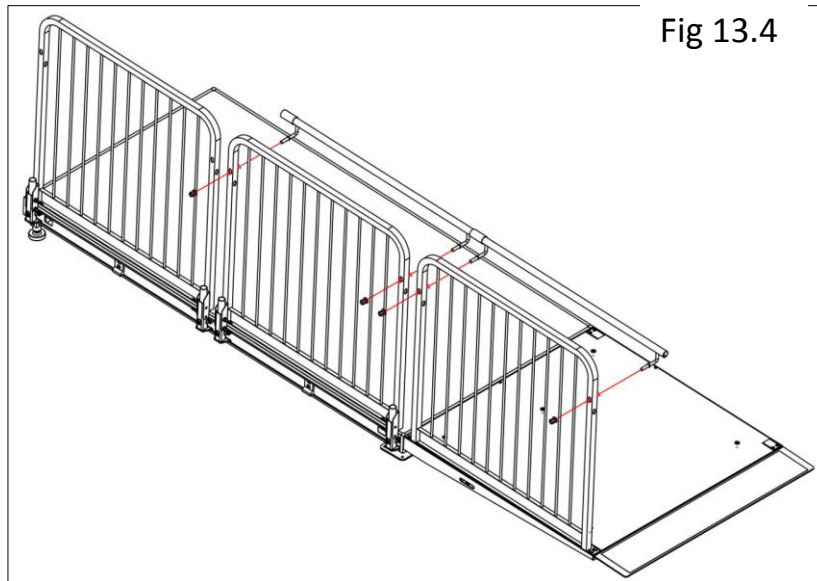

Fig 13.4
- D. Attached the middle handrails to all the guardrails except the top most ones, as seen in figure 13.4.